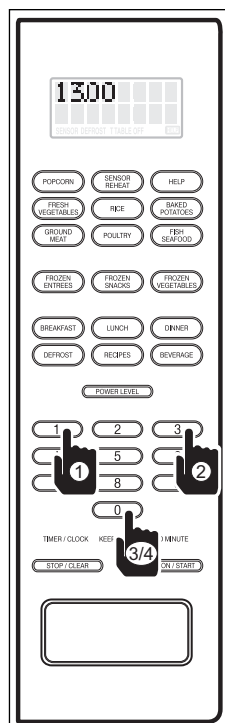

Figure 3-40.
2. Enter desired keep warm time duration. For example: 13 minutes; press the number 1 key, then the number 3 key, then the number 0 key twice (See Figure 3-40), and the display will flash “PRESS START - 13.00”.